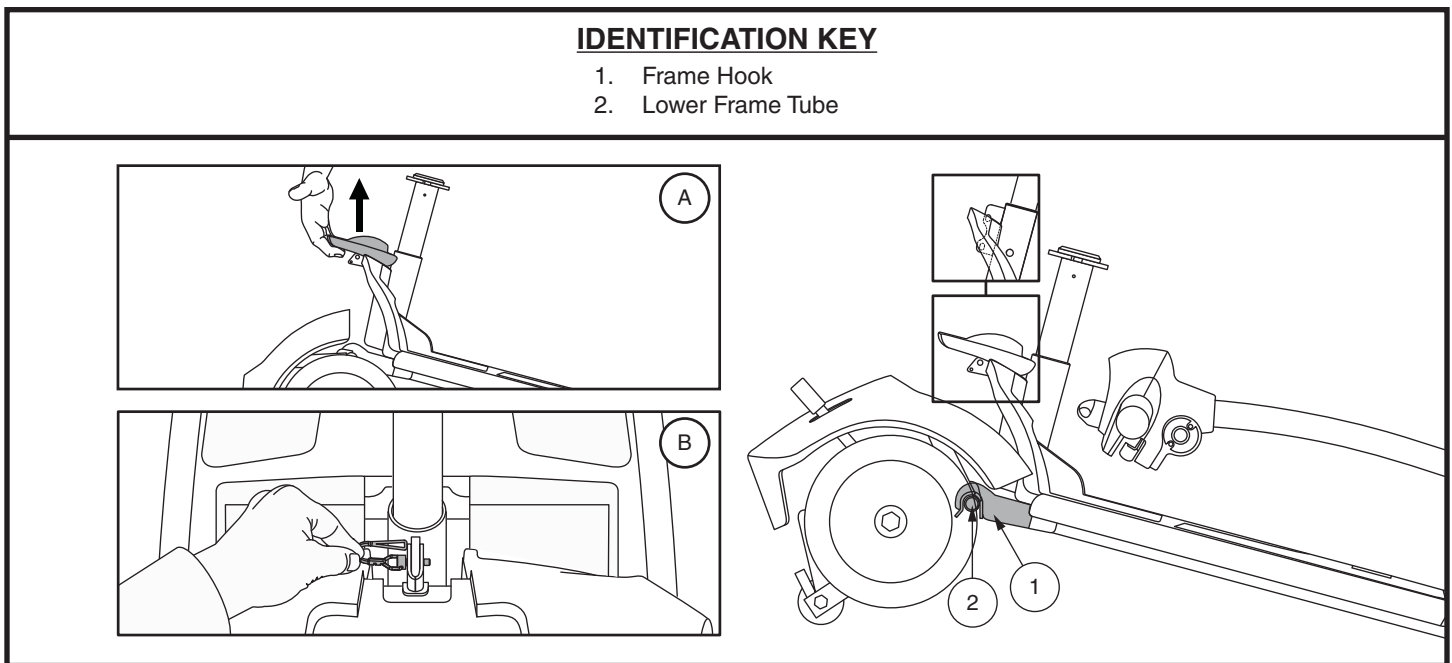

Figure 26. Frame Release Lever (Style A) and Frame Release Lock-up Pin (Style B)
4. Slowly separate the two sections of the Travel Scooter. **See figure 26.**
NOTE: Before attempting assembly, tilt the rear half of the Travel Scooter slightly back on the anti-tip wheels as shown in figure 26.
1. Use the frame release lever (or the seat post for models 36, 336, 83, and 84 only) to lift the front section as you align the frame hooks of the front section with the lower frame tube of the rear section. **See figure 26.**
2. Once the frame hooks are over the lower frame tube, lower the front section and pivot the rear section simultaneously. This will engage the frame lock-up automatically for models 39, 40LX, 40X, 44X, 40E, 44E, 44LX, 49, 50LX, 54LX, 53, 53HD, 54, 54HD, 73, and 74. For models 36, 336, 83, and 84, you will also need to reinstall the frame lockup pin to complete the body assembly. **See figure 26.**